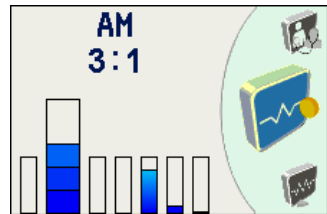

Fig.17
5.4 Press the ∇ button to switch to the **Menu state** (Fig.17). Press the ∇ button at an interval of no longer than 2 seconds to make sure that the highlighting switches cyclically.